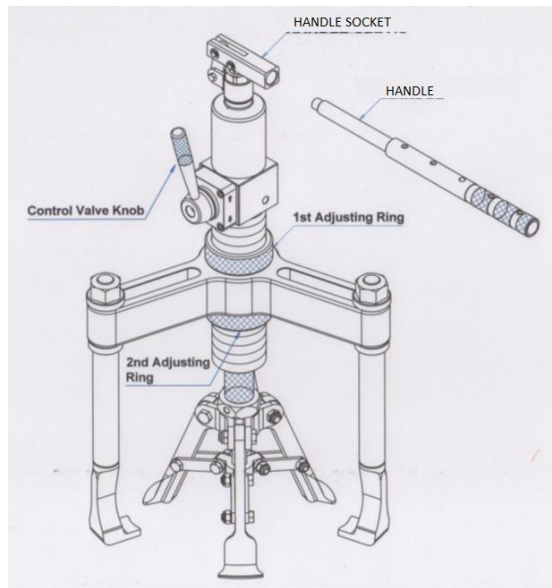

Figure 10 – Inner Pulling
- 5.3.6 Ensure the 1st adjusting ring (Figure 10) is wound down and firm against the crosshead and the 2nd adjusting ring (Figure 10) is wound down and as far away from the crosshead as possible.